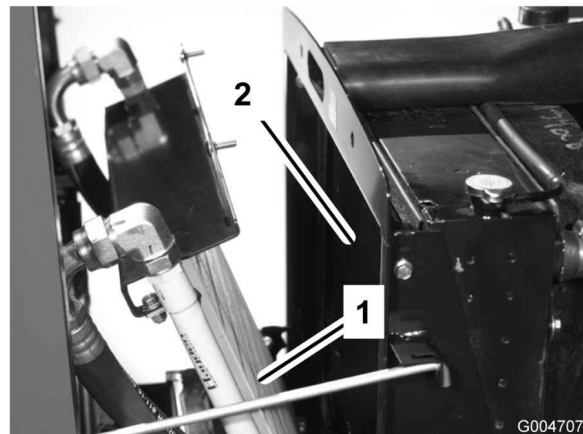

Figure 62
3. Pivot the oil cooler rearward. Clean both sides of the oil cooler and radiator area (Figure 62) thoroughly with compressed air.